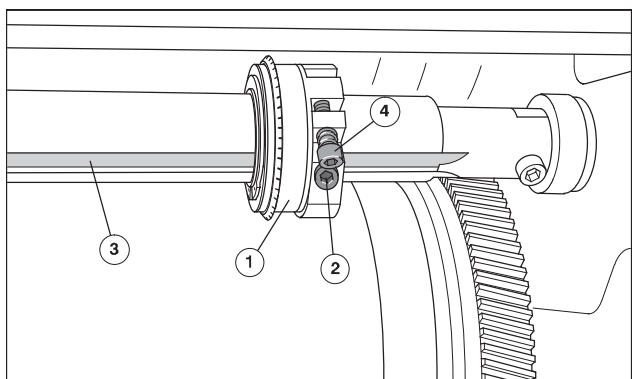

Fig. 9 Adjusting the perforating disc
1. Slacken the fixing bolt (Fig. 9/2) on the perforating disc (Fig. 9/1).
2. Turn the perforating disc on the perforating shaft to the impression cylinder until the fixing bolt (Fig. 9/2) lines up under the upper groove (Fig. 9/3).
3. Fix the perforating disc into place in the upper slot using the fixing bolt (Fig. 9/2); when doing so, do not alter the lateral alignment.
5. Turn the adjusting screw (Fig. 9/4) on the perforating disc so that the perforating disc can just be turned against the impression cylinder.